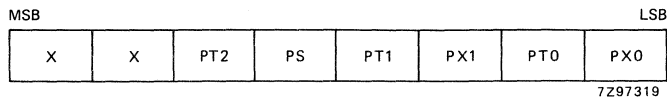

Fig. 13 Interrupt priority register (IP).
**Priority level structure** (see Fig. 13 and Table 5)